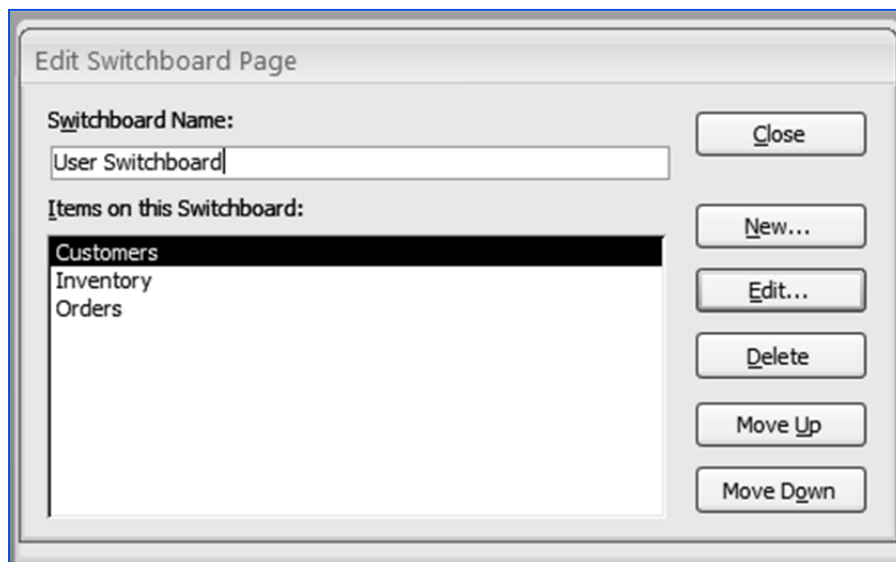

Fig. 4.3.13: Final Edit Switchboard window
13. The final *Edit Switchboard* window appears, as shown in Fig. 4.3.13. Click *Close* to close the *Edit Switchboard* window.